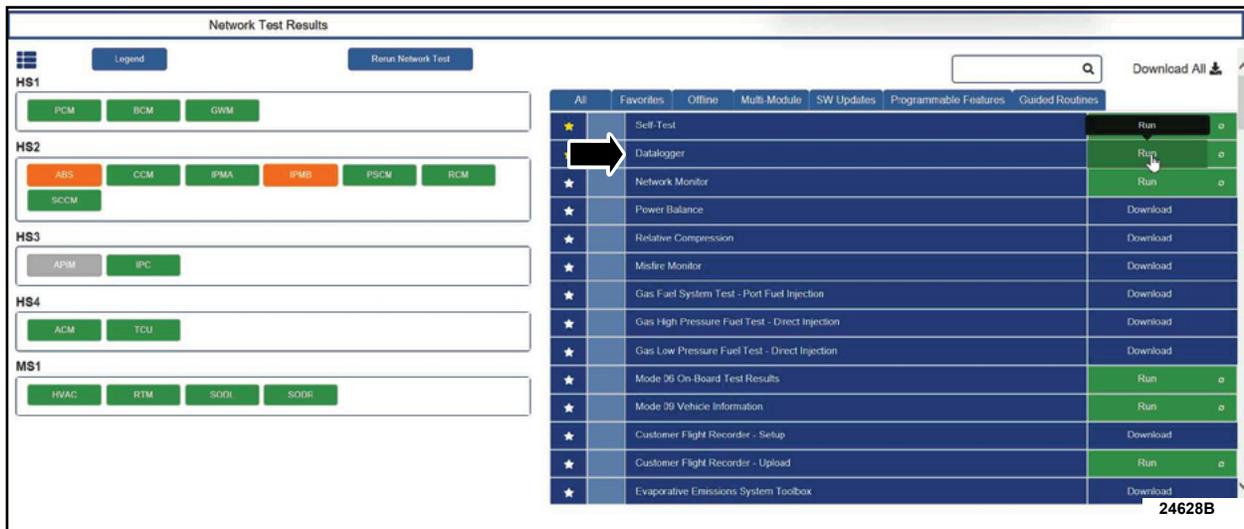

FIGURE 7
17. On the RH side of the screen, locate datalogger and click **RUN** to open a new tab. See Figure 7.